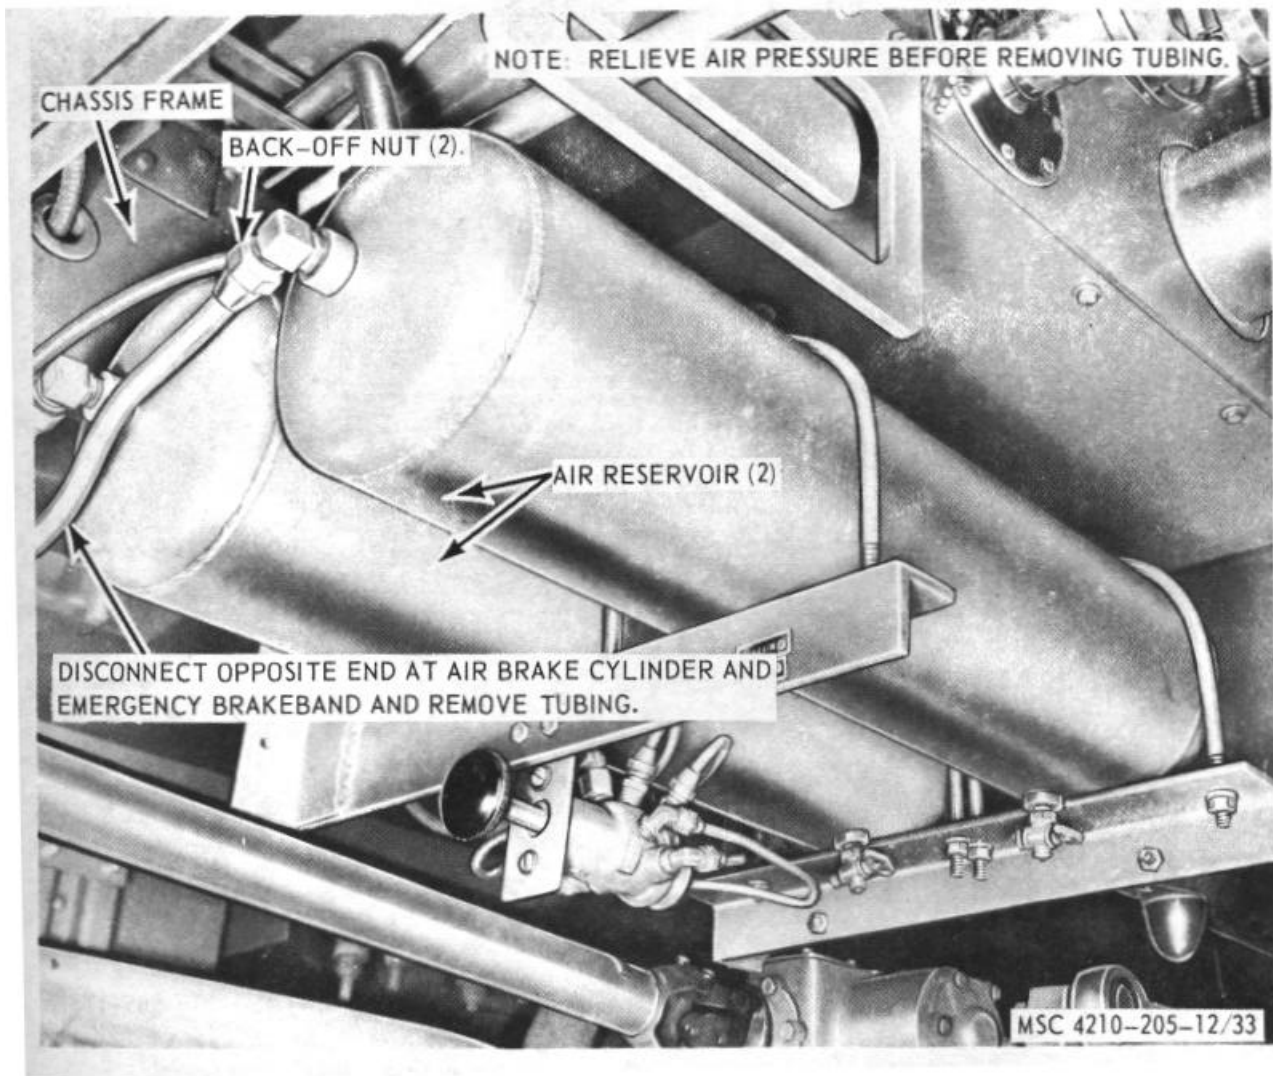

Figure 33. Air tank tubing and fittings, removal and installation.
a. *Removal.* Refer to figure 33, and remove the air tank tubing and fittings from the unit.
(1) Clean all parts with an approved cleaning solvent, and dry thoroughly.
(2) Inspect all parts for damaged or defective condition.
(3) Replace or repair damaged or defective parts as necessary.
c. *Installation.* Refer to figure 33, and install the air tank tubing and fittings on the unit.